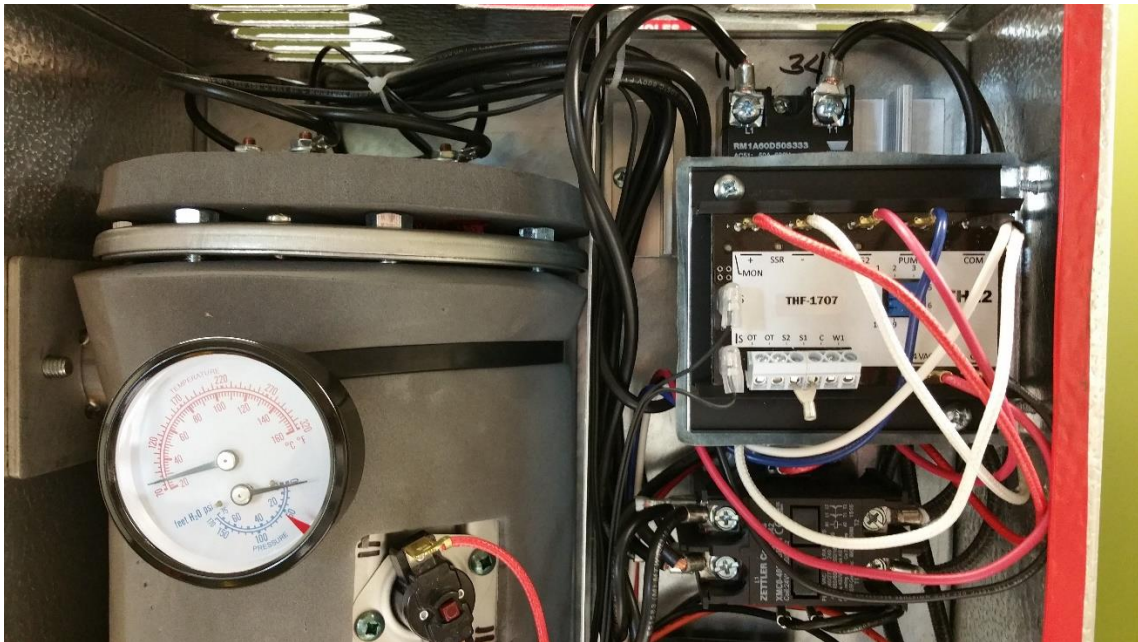

Figure 1.
3. It is strongly recommended that the right inner edge be lined with tape before starting - **it can be sharp.** (Fig. 1)